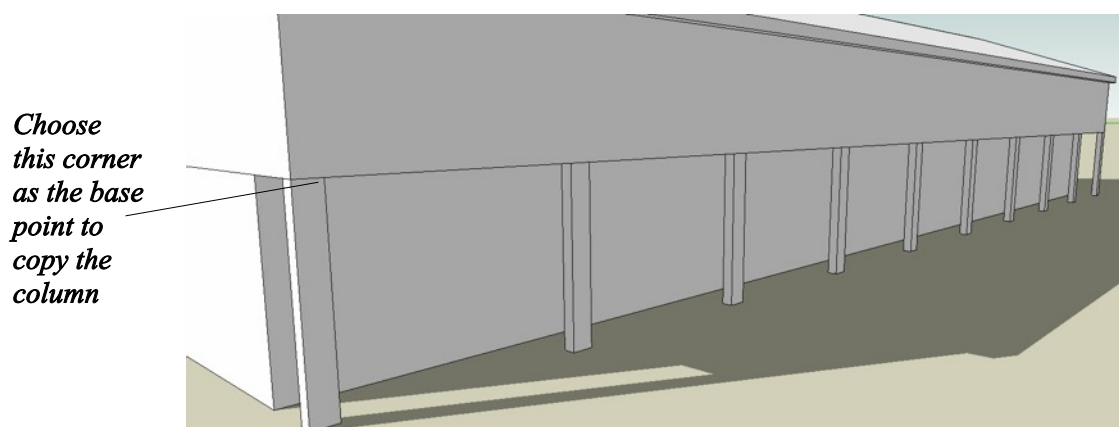

Figure 47. The copied column arrayed along the length of Building 3
- Select the component 'column2' and use **Move** and **CTRL** to copy the column to the other end of the overhang. Ensure that the top right hand edge of the column is selected as the base point so that it is copied to its correct position as shown in Figure 47.
- Immediately after the copy is made enter '**9**' in the Measurements window and the column will be arrayed between the first and last column as shown in Figure 47.